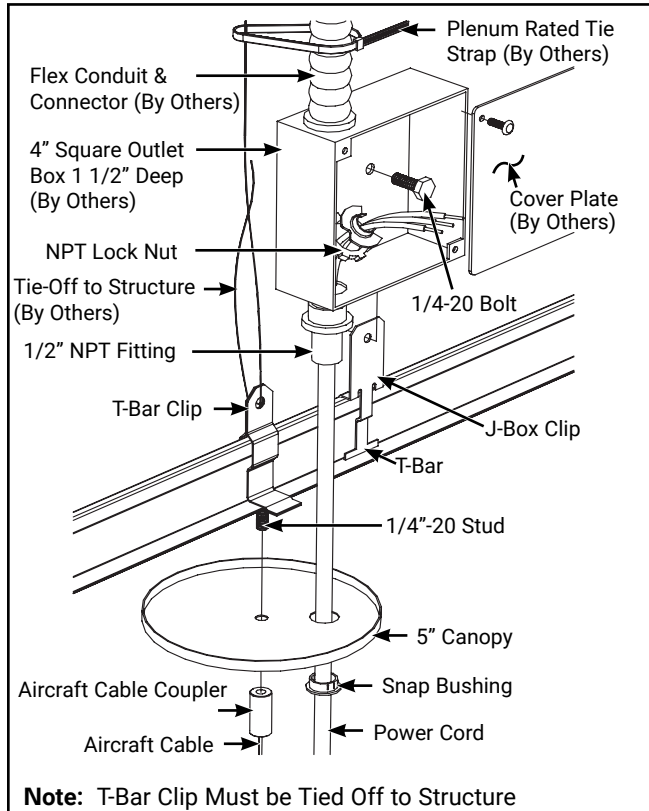

Figure 1. Power
1. Layout mounting locations. (Figure 1.)